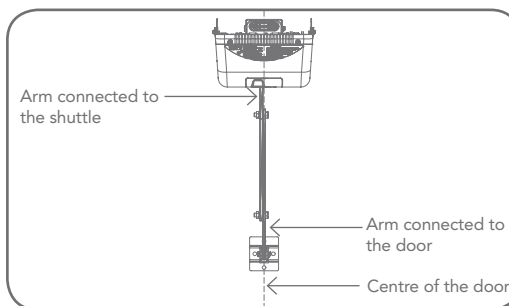

fig 18
- Secure the perforated angle (not supplied) to the ceiling above where drive unit's mounting holes will be. See (Fig.18) for a representative mounting.
- Assemble the bent arm (connecting to the door) to the right side of the straight arm (connecting to the shuttle) with bolts and nuts supplied in the accessory pack (Fig. 18). Always use both bent and straight arms.